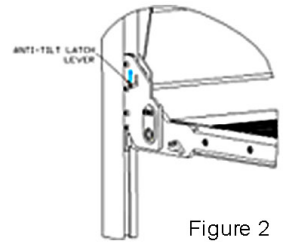

Figure 2
b. Stand to the left hand side of the platform, lift the Anti-tilt Latch Lever (Figure 2) and lift the platform up to the vertical position where the platform retaining catch will automatically engage. (see Figure 3: Traveloc engaged)